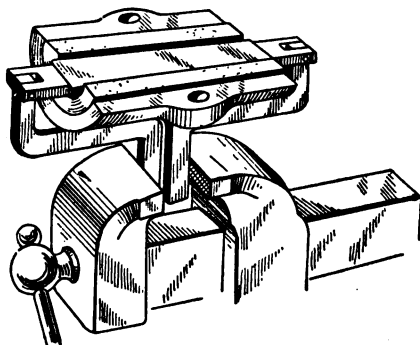

Fig. 70. Holding Fixture for Crankshaft Bearing Caps
*Holder for Bearing Caps.* When a number of bearing caps have to be scraped, or filed down, it is worth while to make a holder for them. A plain form is shown in Fig. 70. This consists of a semicircular piece of metal which fits into the hollow part of the bearing, with each end pivoted on two L-shaped members. The members are held tightly in the vise, and the tighter they are gripped the tighter the bearing cap is held. This jig holds the cap with the desired